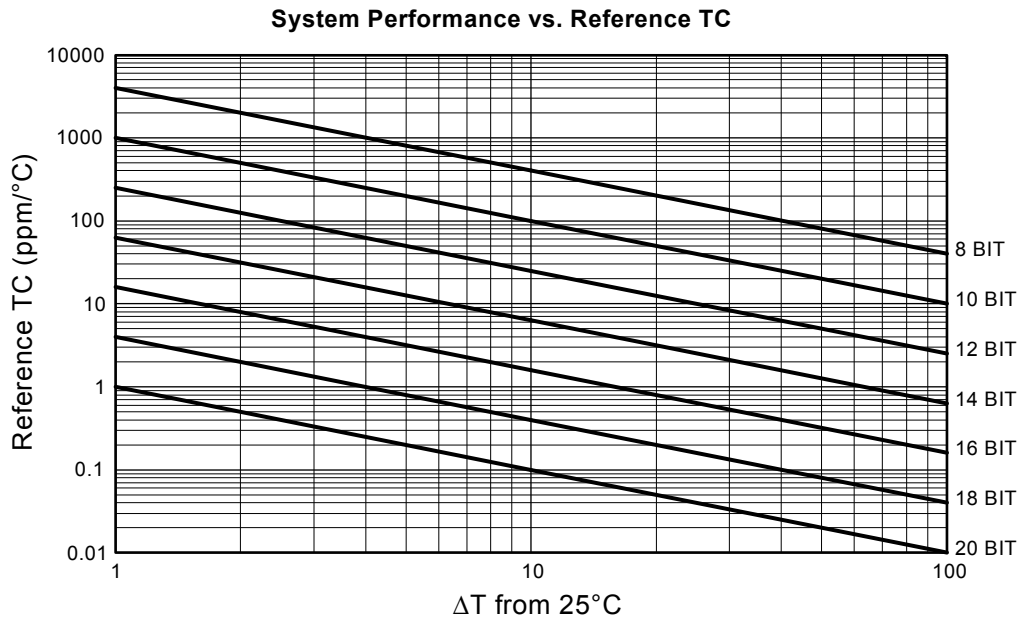

Figure 1. System Performance
System designers have to also be concerned with the operating temperature range for their equipment. A designer who needs a 16 bit accurate data acquisition system for the industrial temperature range, will need a voltage reference with a temperature coefficient (TC) of 0.2ppm/C. See Figure 1.